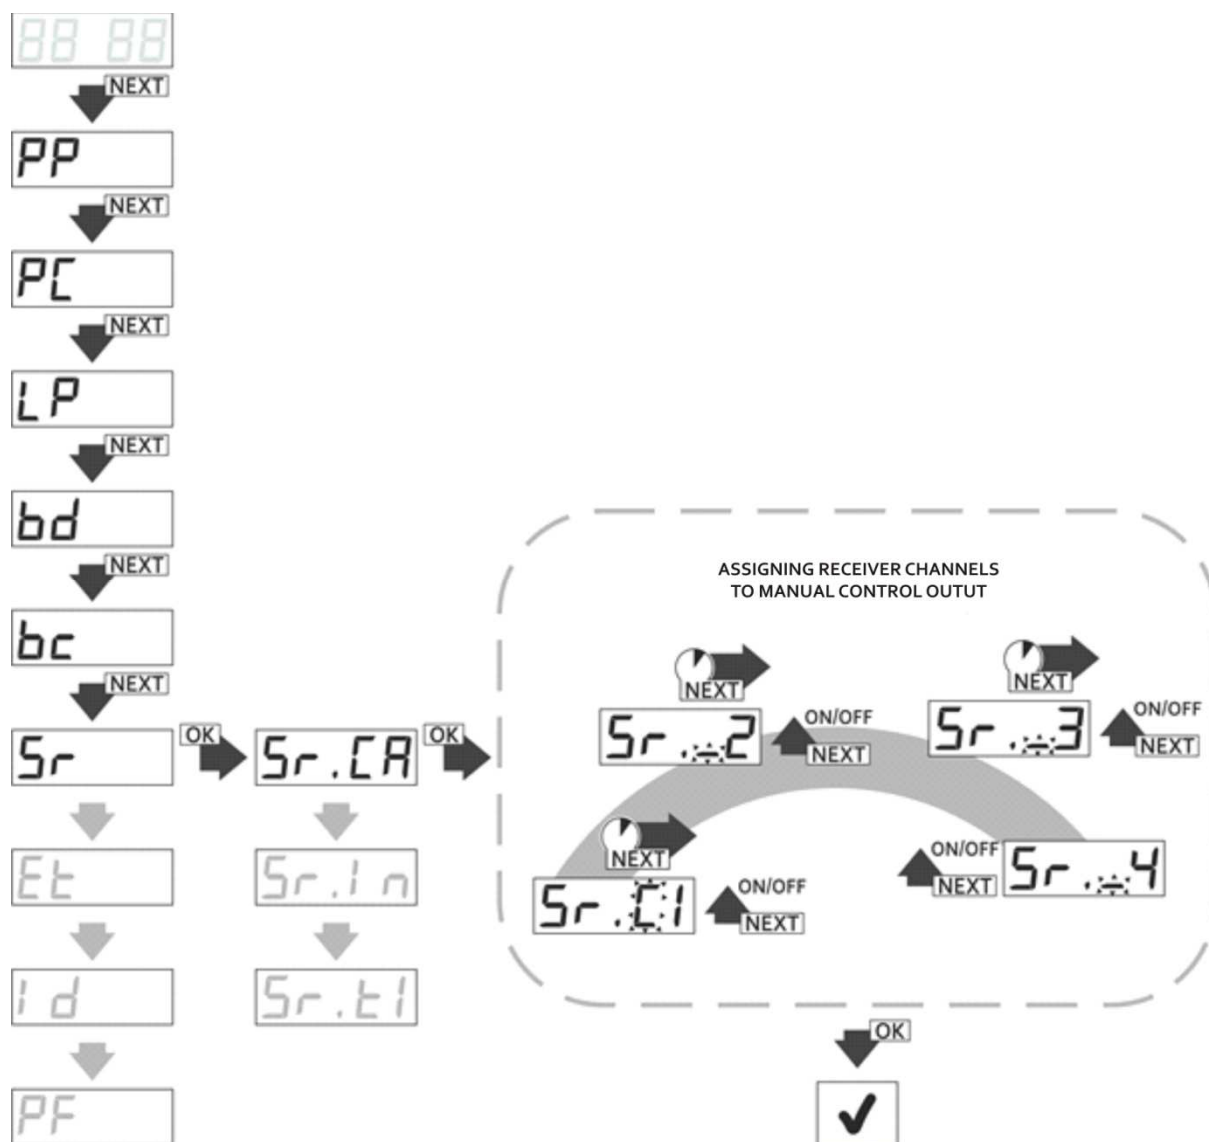

Fig. 23 Assigning receiver channels to the manual control output, Sr.CA function.
- from the main menu level with the NEXT button select the Sr option and press the OK / ESC button of the receiver; the display will show 'Sr.CA' (fig. 23);